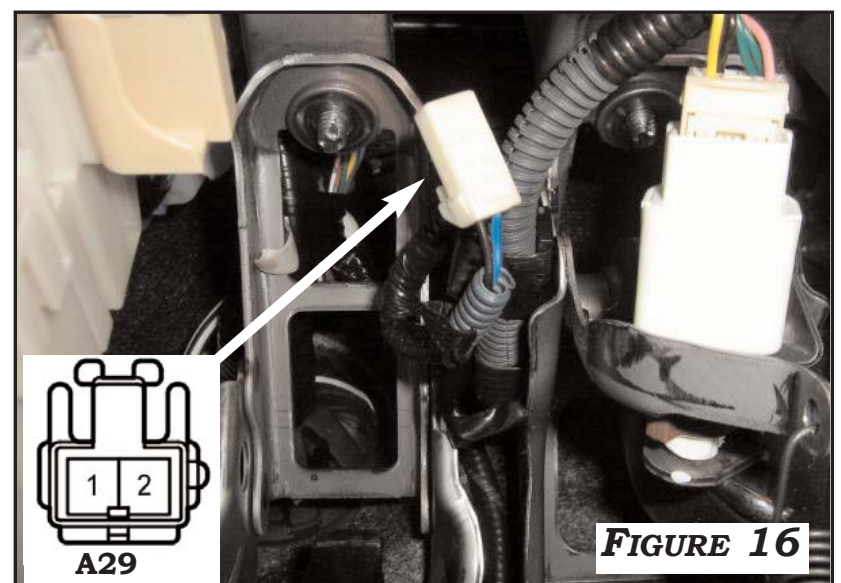

FIGURE 16
2. FOR MANUAL TRANSMISSION YARIS ONLY: LOCATE CONNECTOR **A29** BETWEEN THE JUNCTION BOX AND BRAKE SWITCH. **FIGURE 16.** ATTACH **RED** T-TAP TO THE **BLACK** WIRE IN **PIN 1** OF CONNECTOR **A29**. CONNECT MALE TERMINALS TO **VIOLET WIRES** OF CLUTCH HARNESS AND MAKE ONE CONNECTION WITH THE T-TAP PREVIOUSLY INSTALLED. CONNECT THE OTHER VIOLET WIRE TO THE **BLUE** IN **PIN 2** OF CONNECTOR **A29**. SECURE CLUTCH SWITCH HARNESS WITH WIRE TIES.